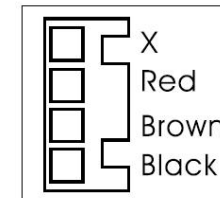

FIGURE 10
- c. Place the connector to the connector hole. Ensure that the direction of connector is inserted correctly according to the sticker affixed on the detector. (FIGURE 10)